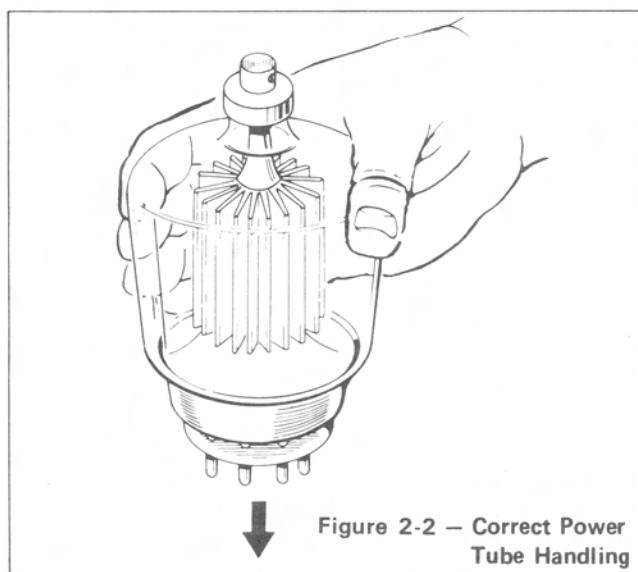

Figure 2-2 – Correct Power
5. Take the tubes out of their case (Refer to Fig. 2-2). In handling, be sure to hold them by the glass envelope, not the plate cap.